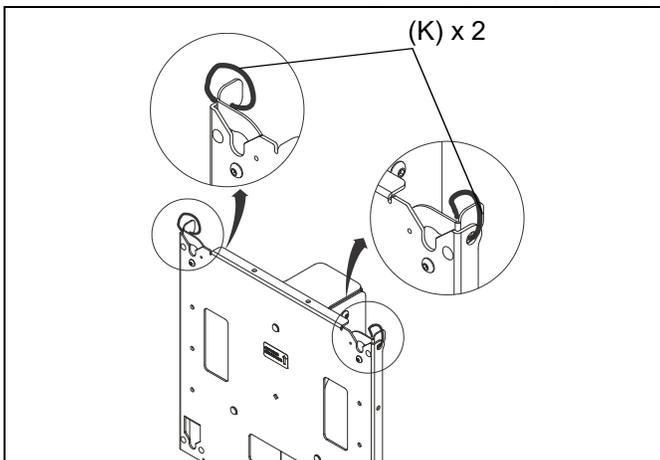

Figure 33
IMPORTANT ! : Manufacturer recommends using cable ties (K) to secure the latching flags in closed position on both sides if padlock is not being used. (See Figure 33)